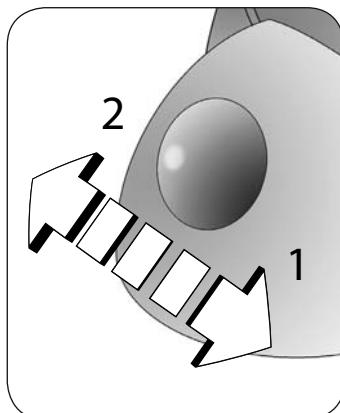

Fig. 4
Press the On/Off button (I) in position 1 (Fig. 4). The indicator light will turn on to indicate that the machine is on and operating.
The coffee will start to come out after a few minutes. Wait until the coffee has completely come out. Press the On/Off button (I) in position 2 (Fig. 4) to turn the machine off. Use a teaspoon to mix the coffee and make the density and temperature uniform.
If the machine is turned on but not in use, the auto-off function operates after about 30 minutes. This function puts the machine in standby. The indicator light of the ON/OFF button (I) is off. To turn on the machine again, press the ON/OFF button (I) to return it in position 2 and then press it to set it in position 1 (Fig 4). At this point the indicator light of the ON/OFF button lights up and the machine will be in operation again.